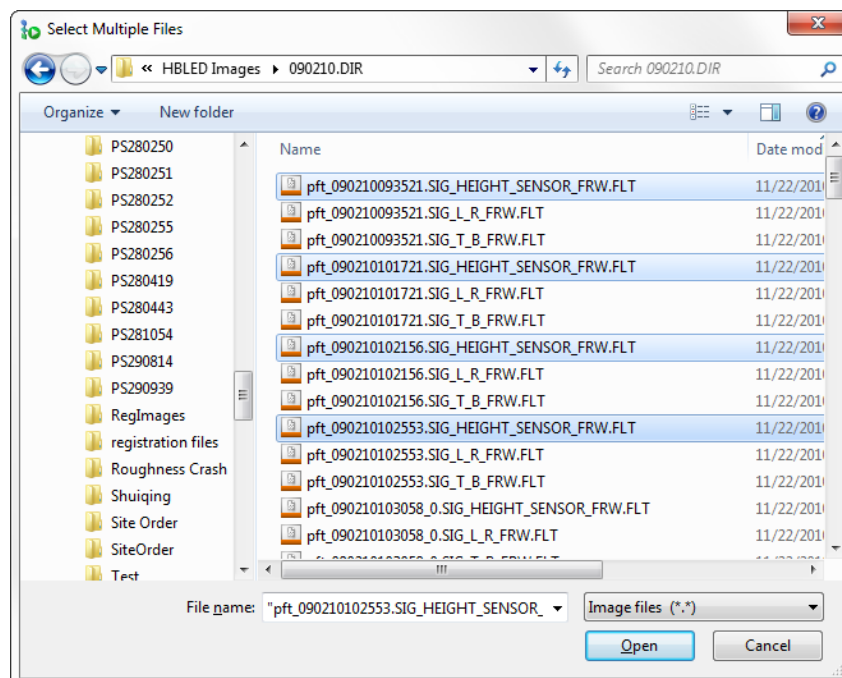

Figure 4.14c: The **Add Files** dialog box
4. Click the **Add** button in the *Run AutoProgram* window. The *Select Multiple Files* dialog box, shown in Figure 4.14c, appears.